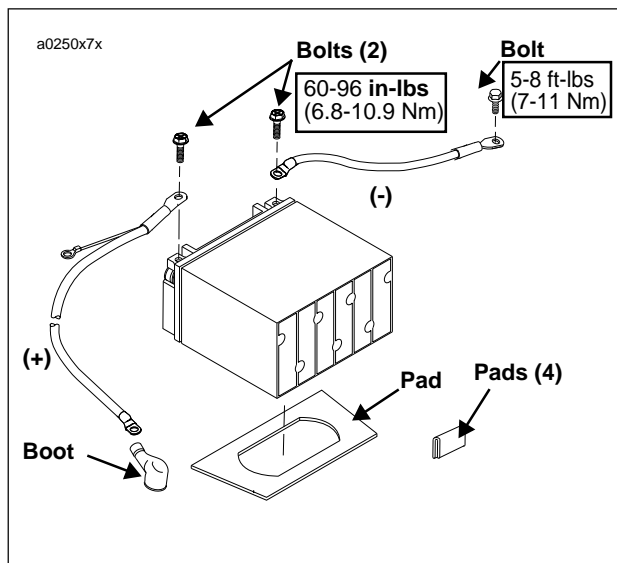

Figure 7-62. Battery Installation
2. See Figure 7-62. Insert bolt through battery positive cable (red) into threaded hole of battery positive (+) terminal. Tighten bolt to 60-96 in-lbs (7-11 Nm).
3. See Figure 7-62. Insert bolt through battery negative cable (black) into threaded hole of battery negative (-) terminal. Tighten bolt to 60-96 in-lbs (7-11 Nm).